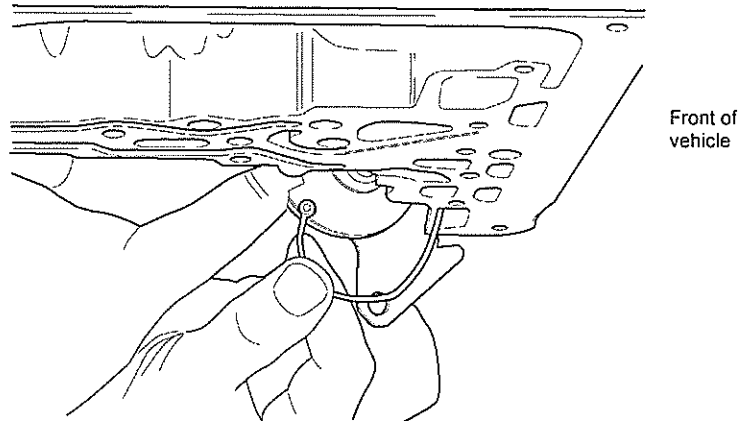

Fig 6 Throttle control cable
- 11.11 Unhook the kick down cable from throttle cam (see Fig 6).